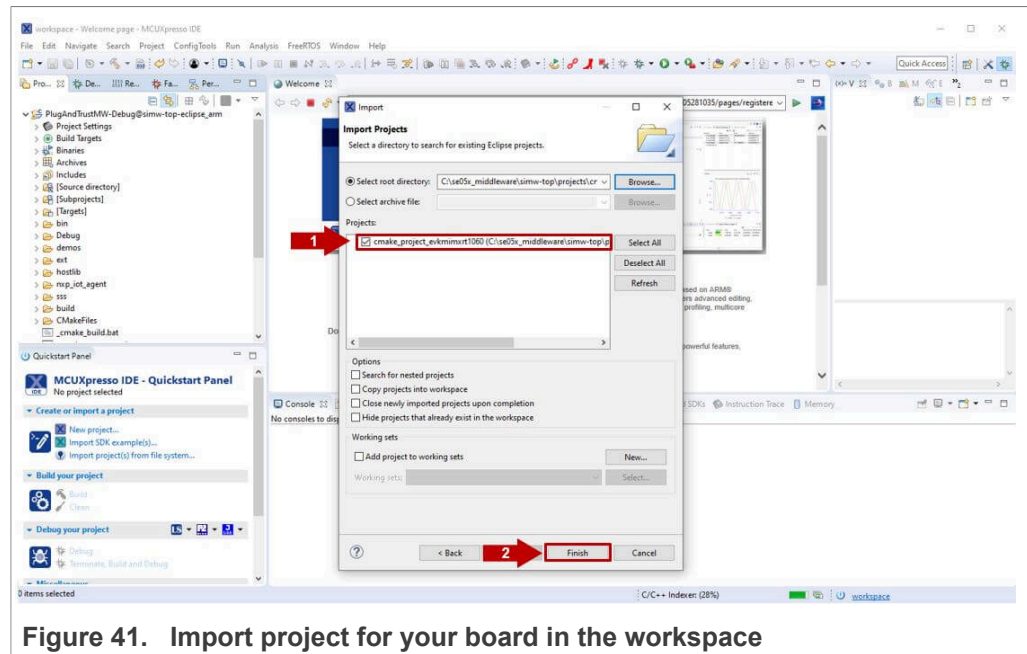

Figure 41. Import project for your board in the workspace
4. After selecting *C:\se05x_middleware\simw-top\projects* folder, the *cmake_projects_evkbimxrt1060* (or *cmake_projects_evkbimxrt1170*) project should be visible in the *Projects* area. Click on the *Finish* button to import this project into your workspace as shown in Figure 41: